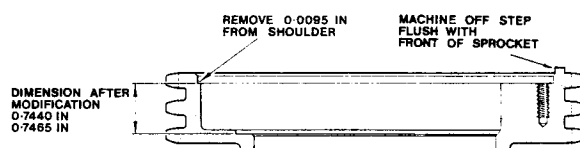

Fig. C7. Shock Absorber Modifications
- (1) Ensure that no casting marks or numbers are standing proud in the shock absorber which could restrict the paddle movement.
- (2) Measure the depth of the spider location (see Fig. C7). Later shock absorbers have a dimension of 0.7560/0.7535 in. This depth need not
be modified. If the shock absorber is not within these dimensions, it is an early type and must be modified by removing 0.0095 in. from the shoulder (see Fig. C7). This ensures that the spider end float is controlled to within a 0.001/0.0054 in. tolerance.
- (3) Several early shock absorbers have a lip on the front face (see Fig. C7). This serves no useful purpose and does not allow the use of service tool 61-6105 to check sprocket alignment without necessitating certain compensations. It is either necessary to remove this lip by machining flush with the front face of the sprocket (see Fig. C7), or to compensate for it as described in "Checking and Correcting Alignment".
- (4) Replace the two needle roller bearings, part number T3643, which support each journal of the shock absorber with 0.0015 in. undersize bearings, part number T11805.
Two types of shock absorber body have been used. The early type has a shoulder on the front face, whereas the later type does not (see Fig. C7). When aligning with service tool 61-6105 on the
Position service tool 61-6105 against the faces of the shock absorber and engine sprockets (see Fig. C7). If the sprockets are in line each of the four legs of the tool will touch the front and rear of each sprocket.